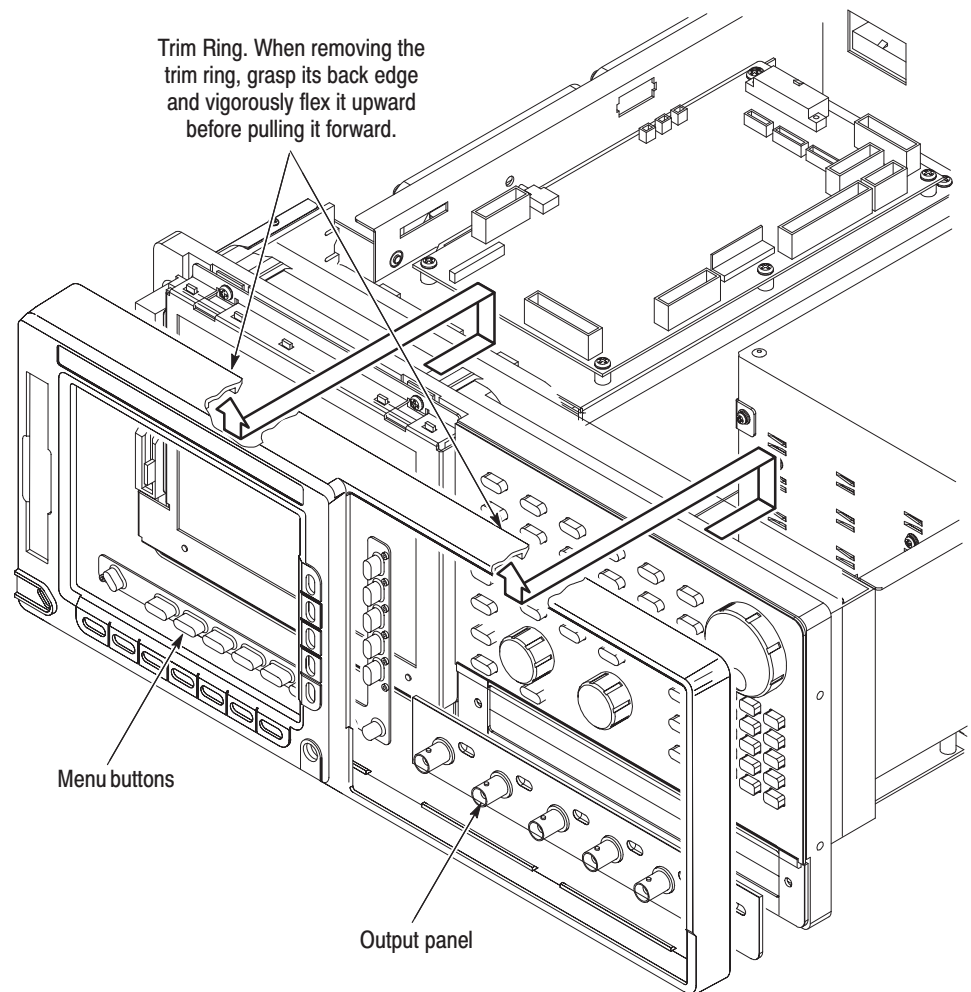

Figure 6-9: Trim ring and menu buttons removal
3. Remove the front cover by grasping the front cover by its left and right edges and snap it off of the front subpanel. When installing, align and snap back on. See Figure 6-9.